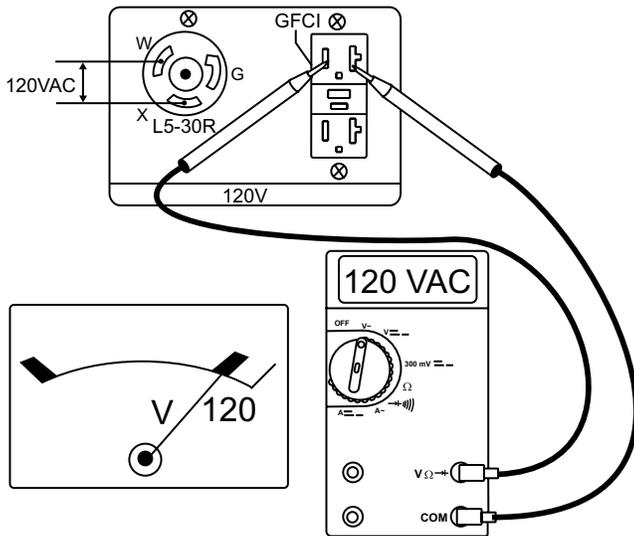

Figure 23. 120V Twist-Lock/GFCI Receptacles
- Read voltmeter on front panel of generator (Figure 23) and verify that 120 VAC is displayed. Using an external voltmeter as shown in Figure 23, verify that 120 VAC is present at the 120V twist-lock and GFCI duplex